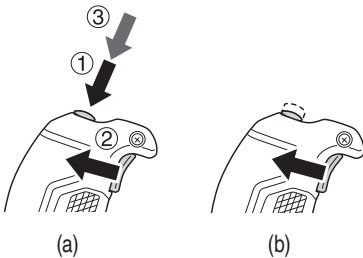

Fig. 27
When the switch trigger is fully drawn, ③ a further press of the ON/OFF Lock button will lock the switch trigger in place, allowing the release of the switch trigger for continued operation. (Fig. 27 (a))
To unlock the switch trigger, draw the switch trigger once again to release the ON/OFF Lock button and discontinue operation. (Fig. 27 (b))